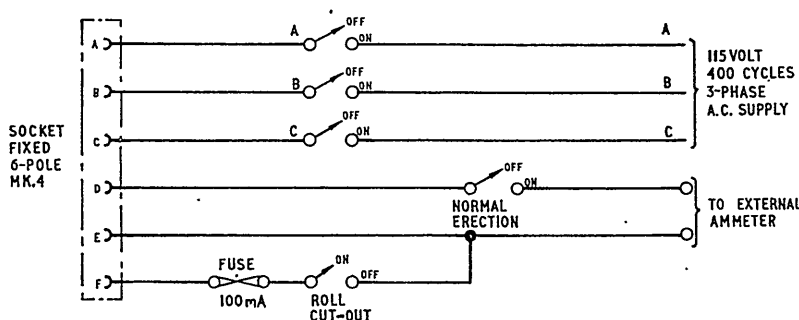

Fig. 1. Test circuit
- (4) Test adapter, wired as in fig. 1.
- (5) Pitch and roll deflection scale (Ref. No. 6C/2043) (R.A.F. only) or Locally manufactured scale.
- (6) Testmeter, Type D (Ref. No. 10S/10610) or Testmeter, Type F (Ref. No. 10S/1).